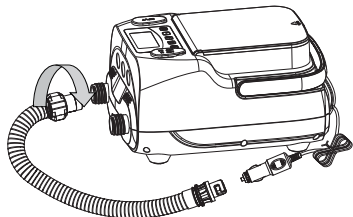

Figure 5
- Connect the end with flexible conduit adaptor (5) of the hose with the air pump inflation inlet (5), and twist clockwise to tighten it, as Figure 5.